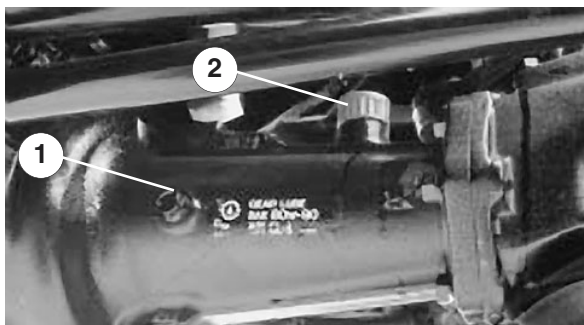

Figure 6
2. Remove the check plugs from the axle and make sure lubricant is up to the bottom of each hole. If the level is low, remove the fill plugs and add enough lubricant to bring the level up to the bottom of the check plug holes (Fig. 6).